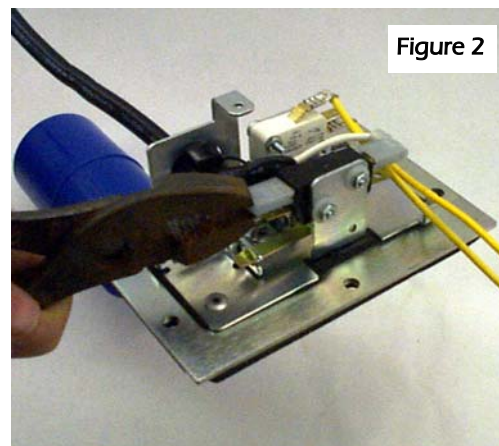

Figure 2
2. Using the pliers, disconnect the wire terminals from the black switch. Use care not to damage the wire terminals. (Figure 2)
5. Attach the insulated wire terminals to the uppermost (normally closed) switch terminals on the black switch. Use care not to bend the switch terminals. (Figure 2) Manually operate the switch by pressing down on the metal actuator that surrounds the switch lever. Be sure that it operates smoothly without obstruction.